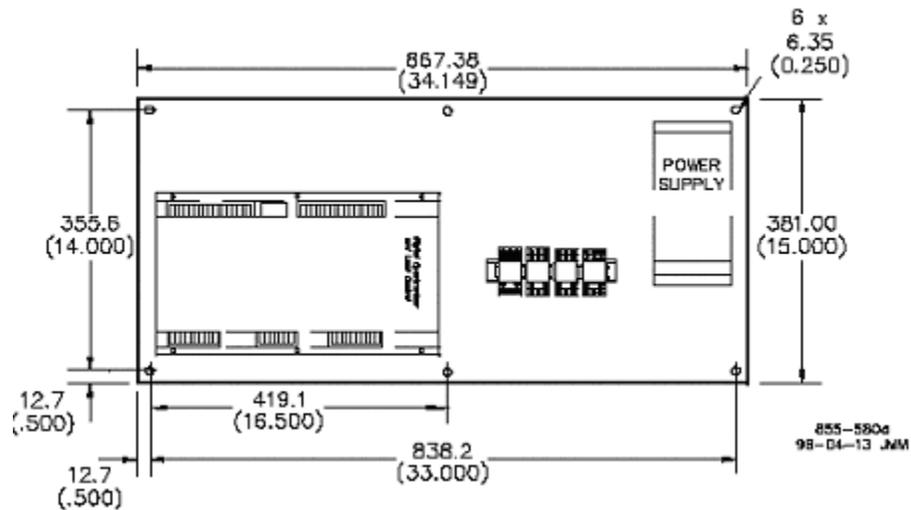

Figure 8-4. DSLC Mounting
The DSLC, along with its auxiliary devices, will be mounted on a panel (see Figure 8-4). To simplify the DSLC interface, a 120 Vac-to-24 Vdc power supply and four interposing relays are included on the panel. This panel is designed to be mounted within a cabinet near the control or system switchgear.
2. Drill and tap the mounting holes for appropriate size hardware (see Figure 8-4).